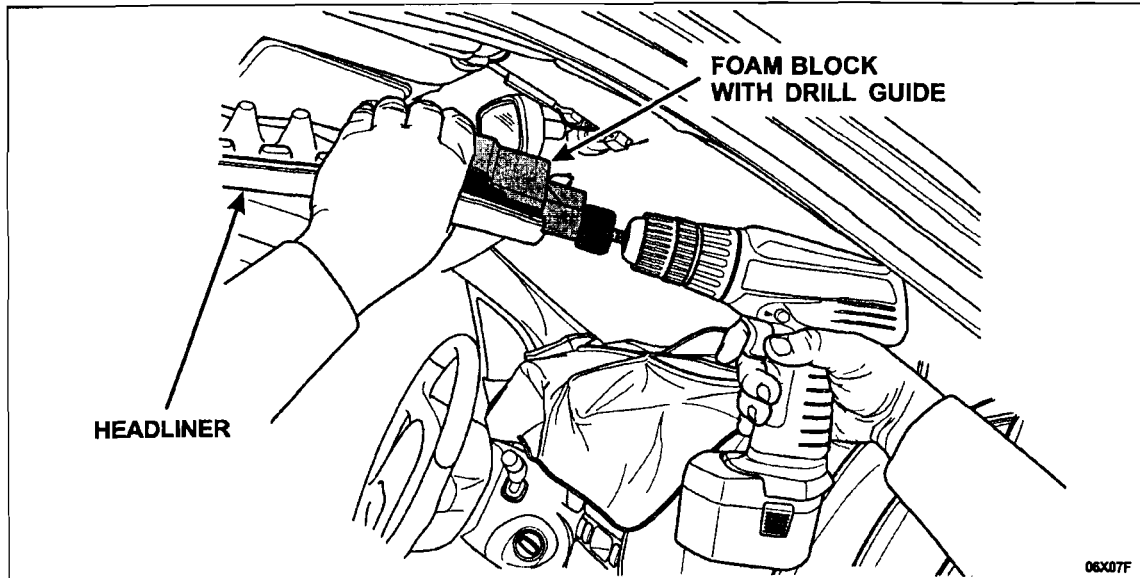

FIGURE 6
- D. Drill the hole to the proper depth using the stop on the bit as your depth gauge. See Figure 6.